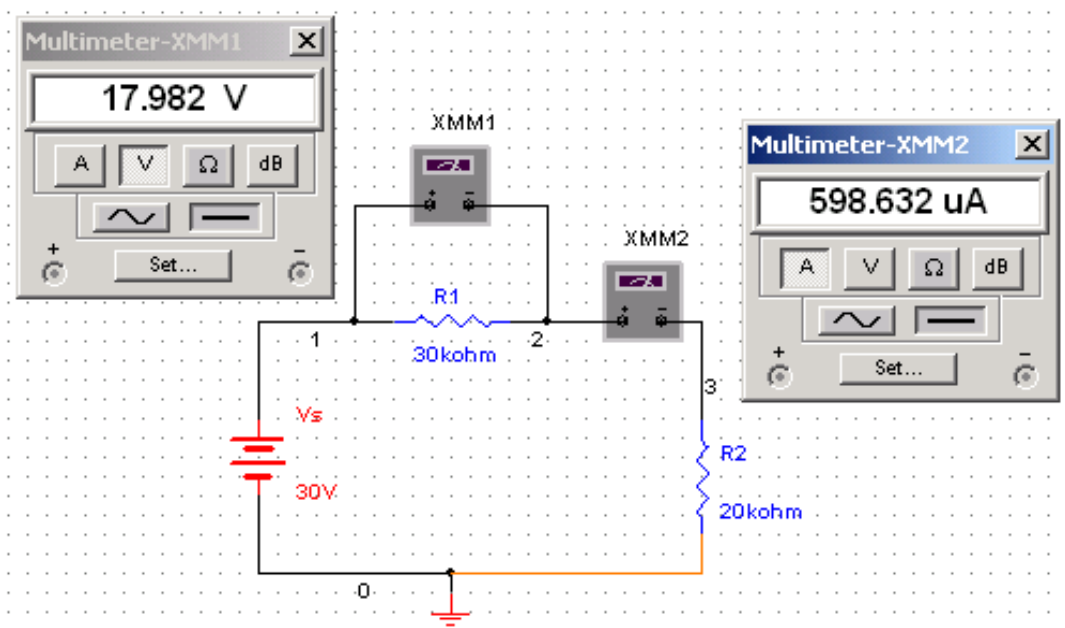

Figure 17: Simulation result
3. If the properties window is not open, double-click the **Multimeter**. Click to the '1' position (ON) of the simulation switch to start simulation. Results will appear in the properties window of the **Multimeter**. Compare your result with those in Fig. 17 and show them to your instructor.